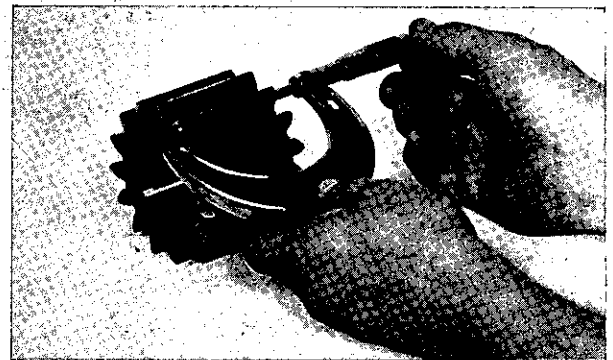

Figure 15
10. Install hollow dowel pin to adapter and end cover. NOTE: Clearance between gear face and wear plate is provided by the metal shim gasket between the adapter, housing and end cover. With a micrometer measure width of housing and width of gears. (See Figures 15 and 16). The chart at the top of following page indicates number and location of shim gasket used to provide proper clearance between gear face and wear plate.